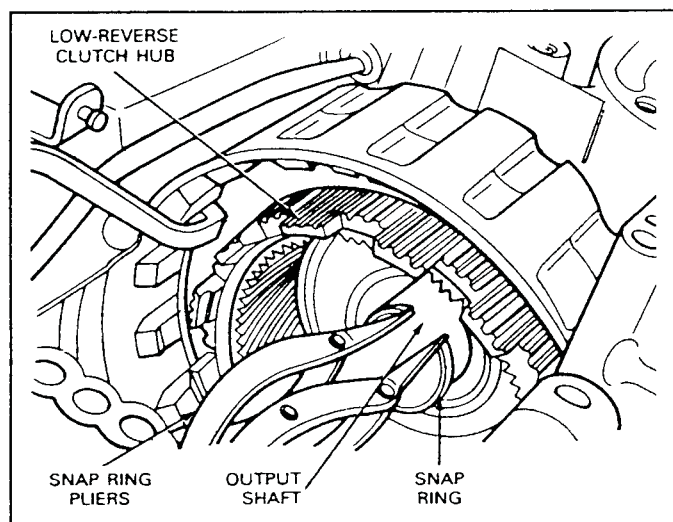

FIG. 22 Removing or Installing Reverse Ring Gear Hub, Snap Ring
15. Remove the snap ring, (Fig. 22), that secures the reverse ring gear and hub on the output shaft. Slide the ring gear and hub off the shaft. Remove the thrust washer.